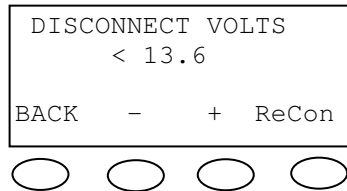

Figure 16. Low Battery Disconnect Volt setup
Figure 16 shows the Low Battery Disconnect VOLT setup screen. Pressing soft key 4 will toggle between the Reconnect (ReCon) screen and the Disconnect (DisV) voltage menus. In this example, the Aux output will go active when the battery voltage goes *below* 13.6 volts for 14 seconds, and it will de-activate when the battery voltage goes *above* the ReCon Voltage set point, after the timer has counted back to zero.